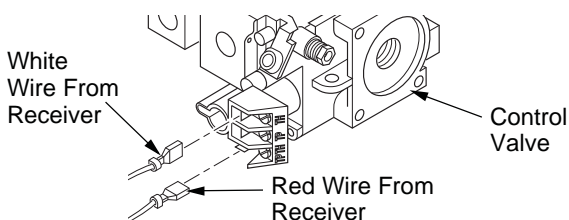

Figure 21 - Connecting Wires
9. Connect wires to control valve at the TPTH and TH locations as shown in Figure 21. **Note:** Make sure excess wire does not interfere with burner or pilot.